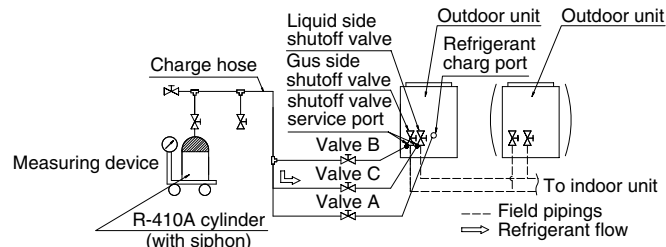

fig 31
3. Open the valve C (See the figure 31. The valve A, B and the liquid and gas side shutout valve must be left closed), and charge the refrigerant of the “additional charging amount” from the liquid side shutout valve service port.